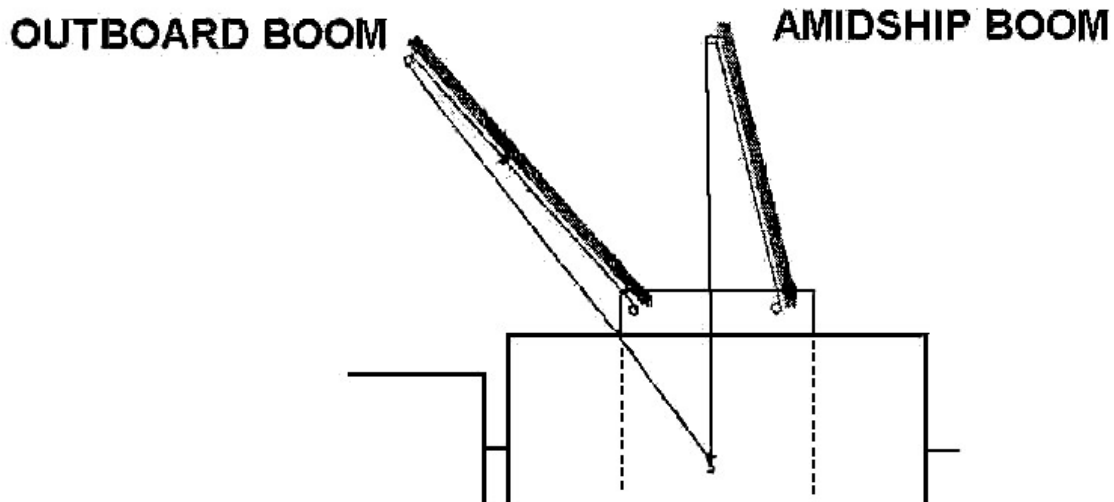

Figure 3-131
1. Direct the rigging of a yard-and-stay rig (see Figure 3-131).